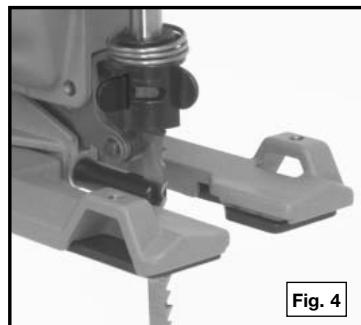

Fig. 4
5. With the teeth of the blade toward the front of the saw, insert the blade through the blade guide into the blade holder as far as it will go and release the levers (Fig. 4).
6. Pull up on the blade until it locks in place. The blade is properly installed when the levers are aligned as shown in Fig. 4.